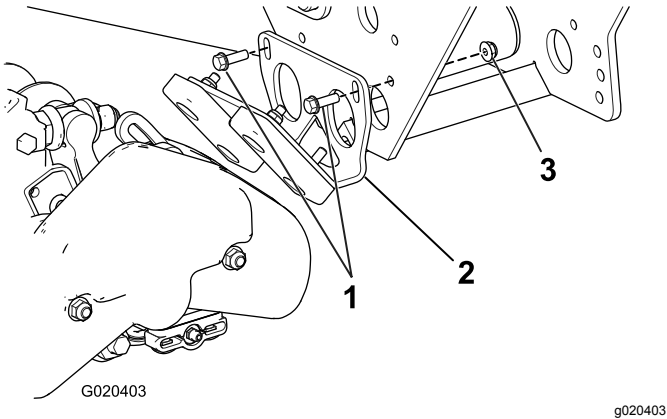

Figure 29
43. For the 22-inch cutting units only, install the bumper assembly on the machine using 2 bolts and locknuts (Figure 29).